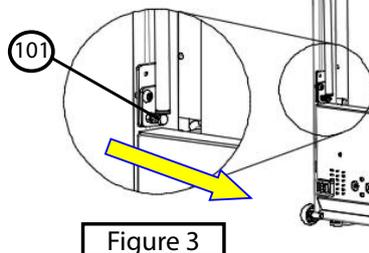

Figure 3
3. Pull the spring thread latch (101) (figure 3).